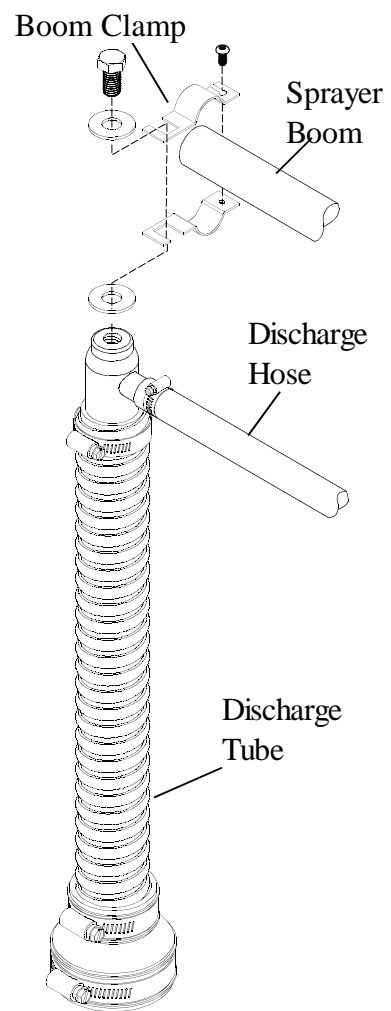

Figure 3:
1. **If you are mounting the tubes on a sprayer**, a standard nozzle body clamp can be used. Simply mount the clamp on the sprayer's boom and insert the 1/2" bolt through the hole where the nozzle body would normally go with a flat washer on either side of the clamp. See Figure 3 on page 4. See the Accessories section on page 14 for ordering boom clamps.